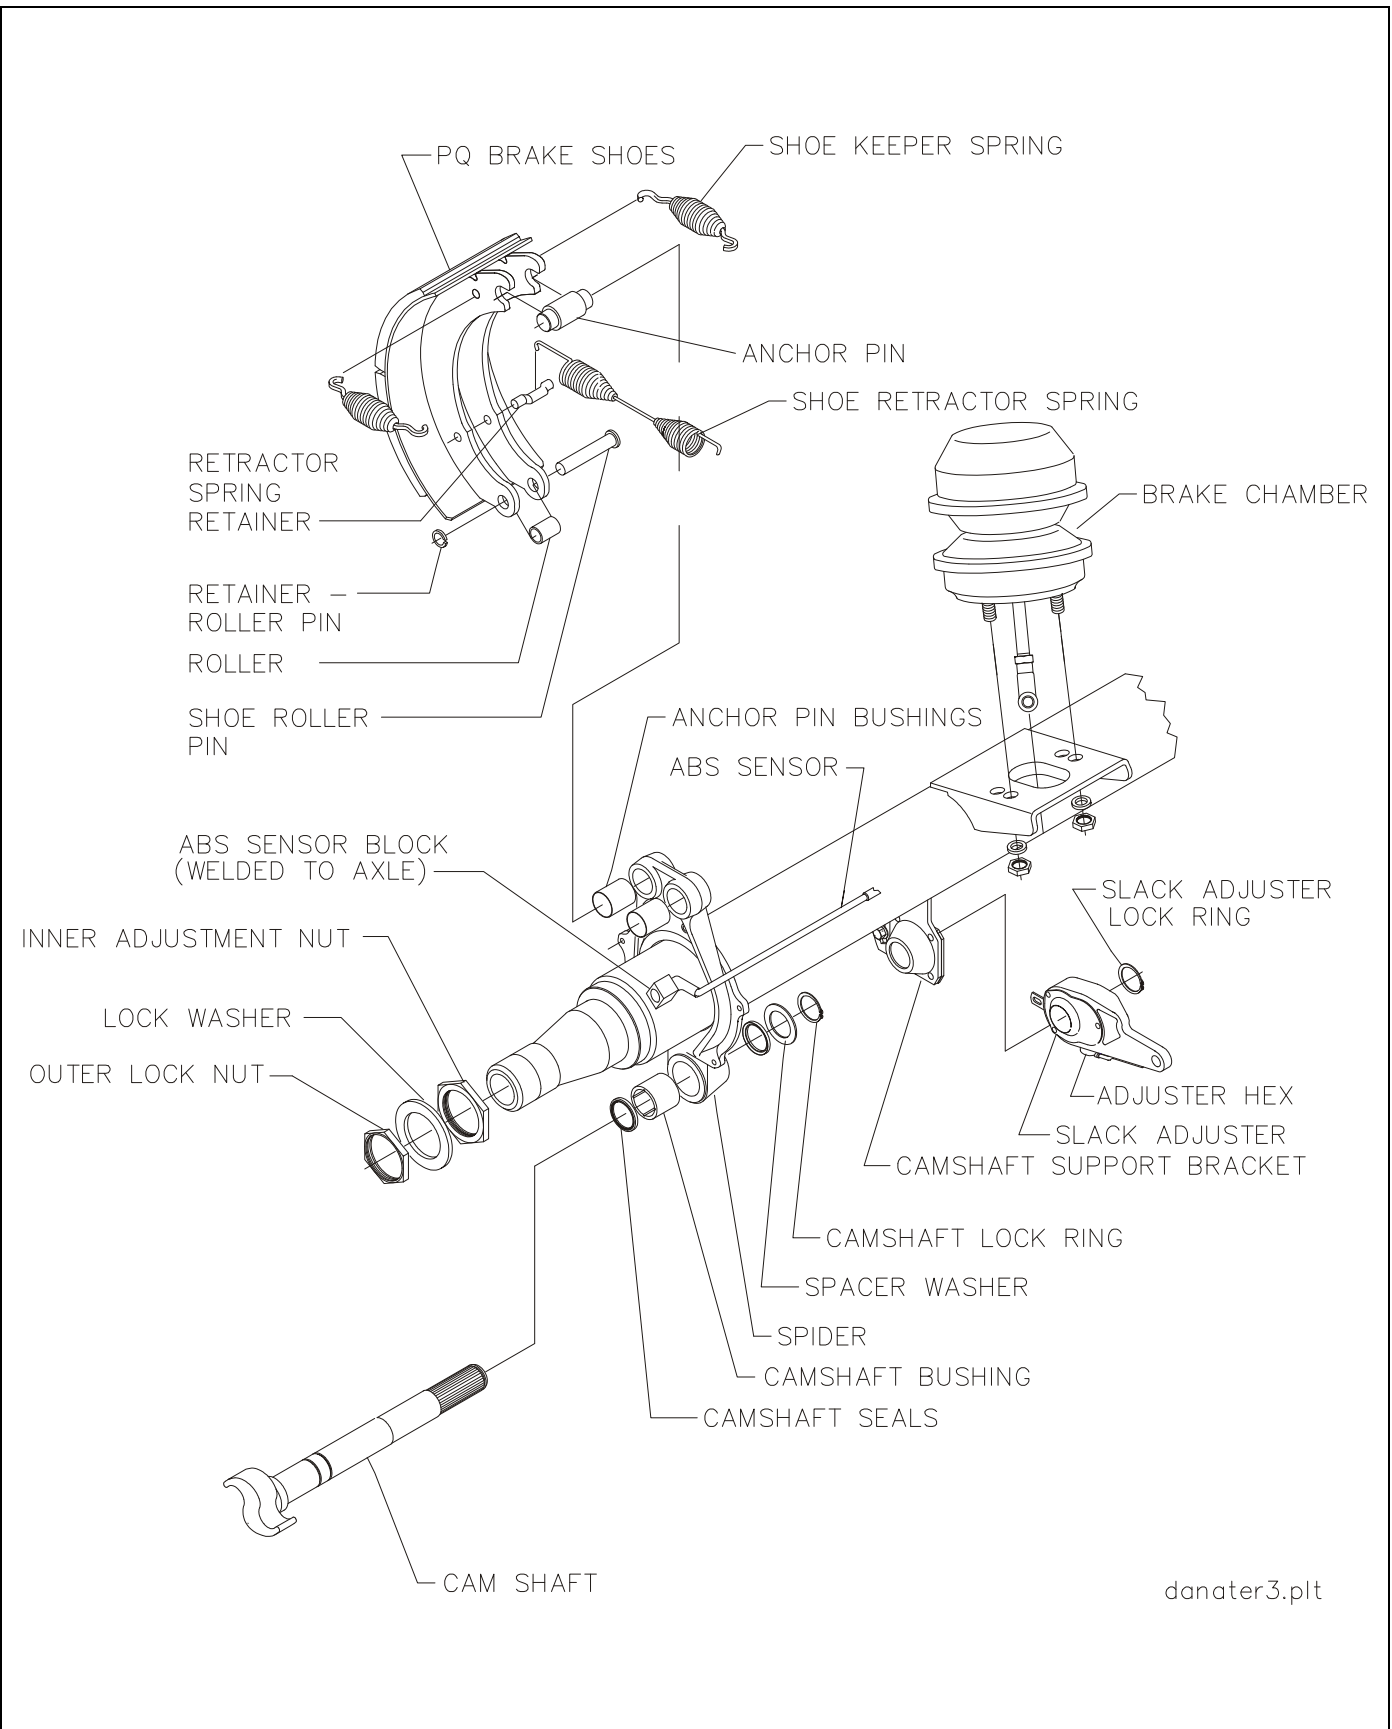

Figure 4-13: Axle and Brake Assembly
1. Release brakes and back off slack adjuster (**See Figure 4-13.**)
1. Install new anchor pin bushings, camshaft bushing and camshaft seals into the spider (**See Figure 4-13.**)